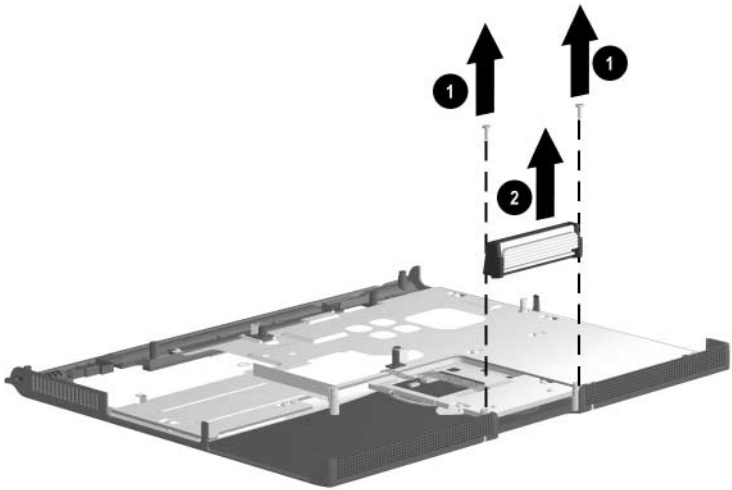

Figure 5-26. Removing the Display Release Assembly
3. Remove the two PM2.0 × 4.0 screws ❶ that secure the display release assembly to the top cover (Figure 5-26).
4. Lift the display release assembly straight up ❷ and remove it from the top cover.